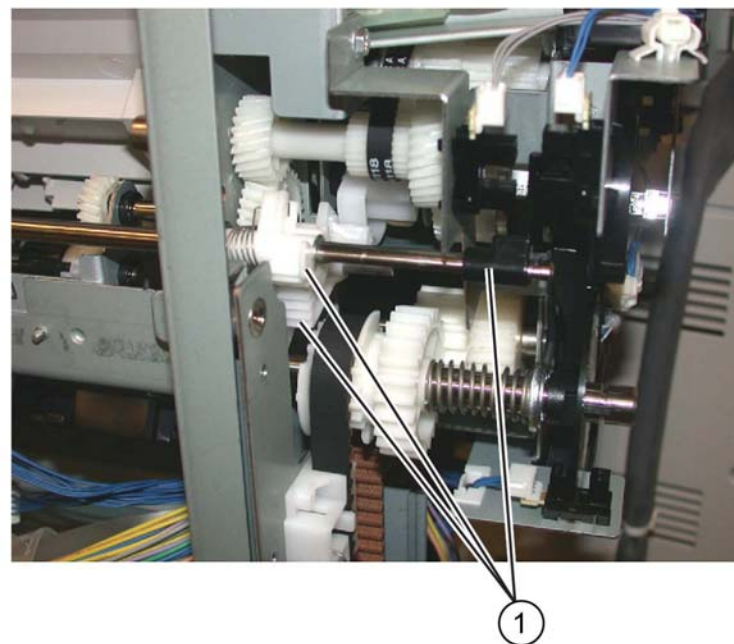
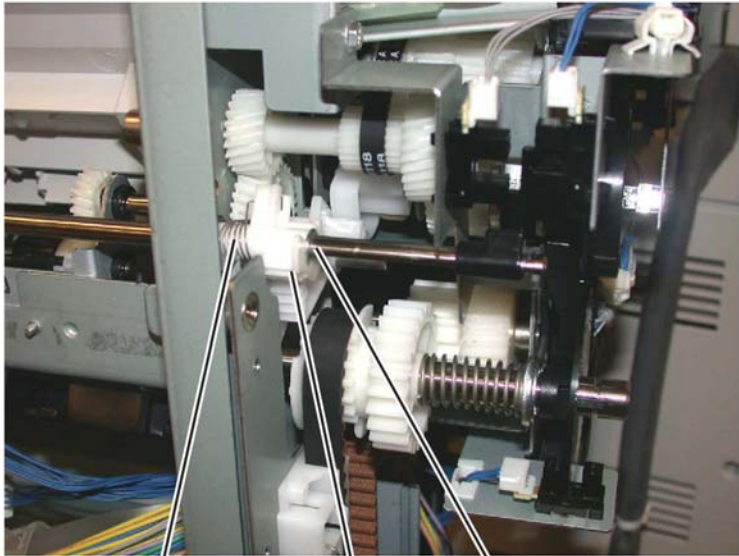

Figure 6 Gear orientation
Figure 7 Prepare to remove the set clamp shaft
14. Prepare to remove the set clamp shaft, Figure 7:
- a. Remove the rear E-ring (1) from the set clamp shaft
- b. Slide the gear (2) away from the frame.
- c. Disconnect the spring (3) from the gear.
NOTE: Note the position and orientation of the set clamp shaft gear and the cam gear that it engages (1). When installing the set clamp shaft, these gears must engage in the same manner, Figure 6.